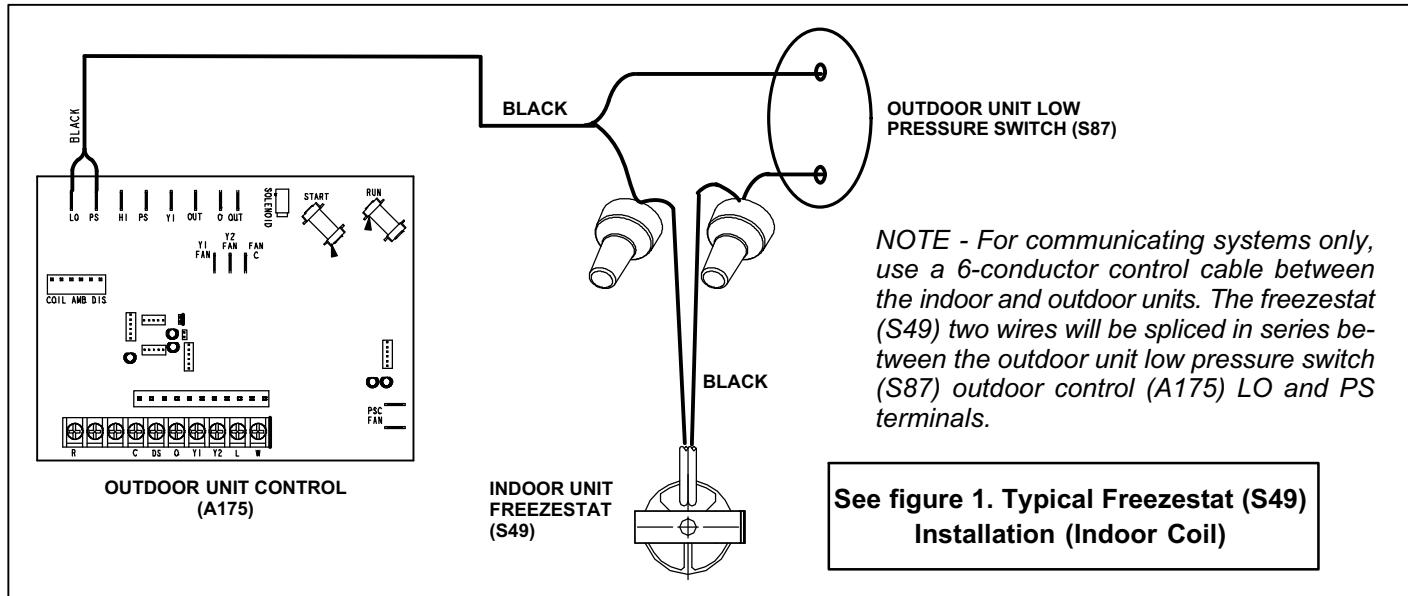

Figure 3. Freezestat (S49) Wiring for Communicating Systems
3. Connect freezestat (S49) wires as exemplified in the applicable unit wiring diagrams and figure 3.